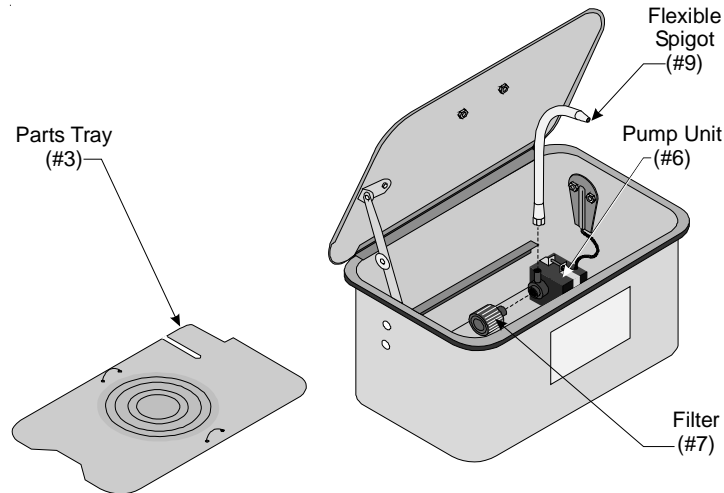

Figure 4 — Attaching the Remaining Parts
Step 1: Attach the FILTER (#7) to the PUMP (#6), as shown in Figure 4.
Step 2: Attach the SPIGOT (#9) to the PUMP, as shown in Figure 4.